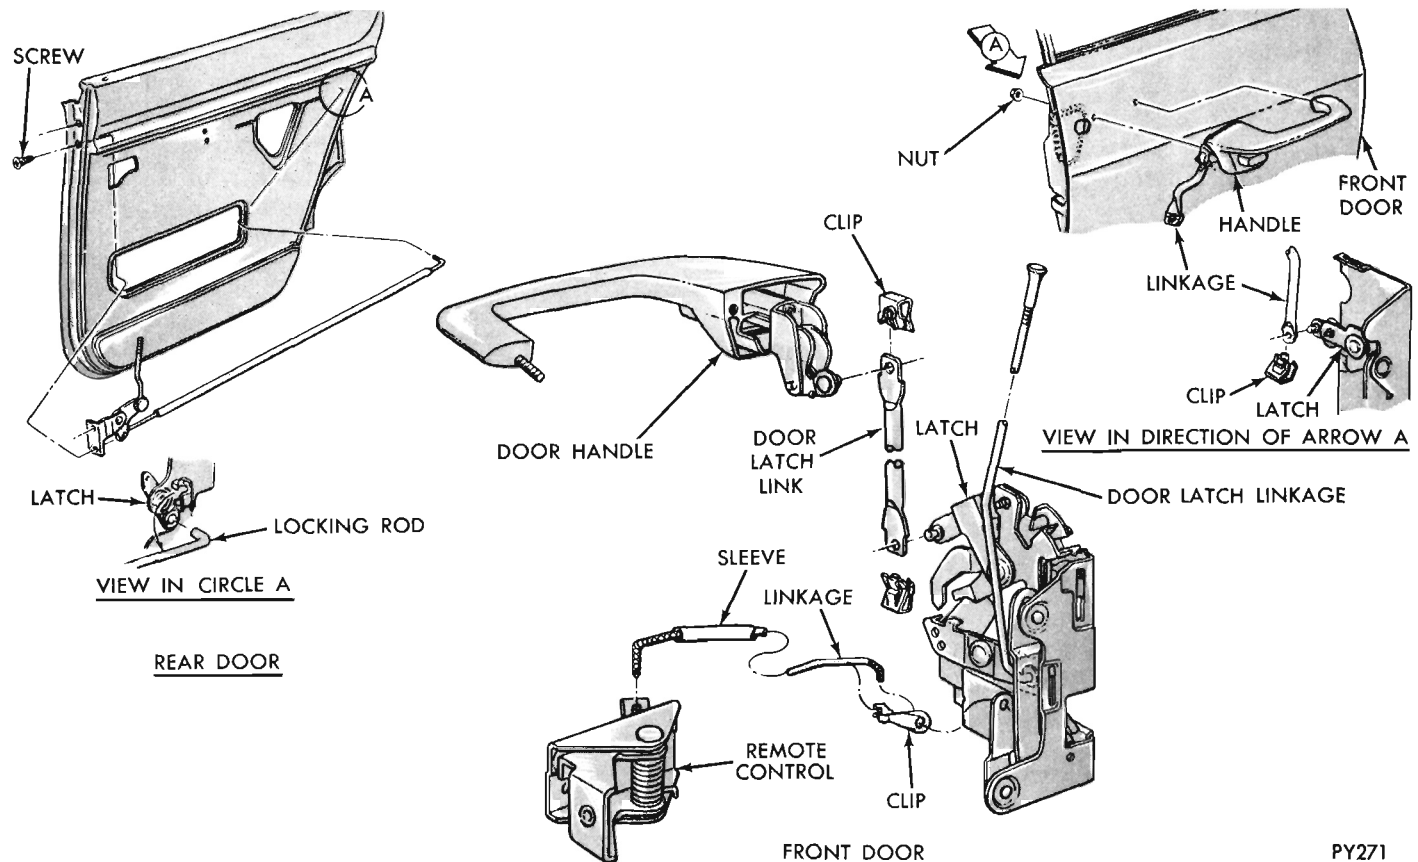

Fig. 14 - Front and Rear Door Locking Mechanism
- (1) Disconnect handle to lock link (Fig. 14) from lock by pulling link outward at lock.
- (2) Disconnect locking lever rod (front door only) from lock assembly.
- (3) Disconnect locking rod link from lock.
- (4) Remove screws attaching lock assembly to door.
- (5) Rotate lock assembly and disconnect remote control link when removing lock.
- (6) Lubricate all moving points of lock assembly.